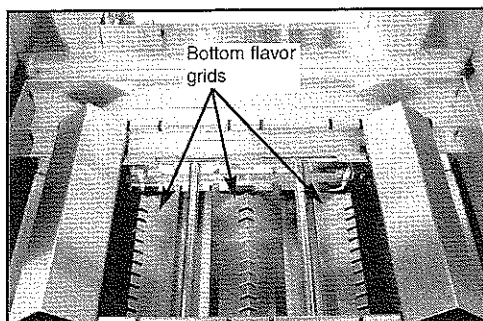

Fig. 3
1. Install the bottom three Flavor Grids, smaller ones with notches, in the cutouts and around the ignitors. (See Fig. 3)